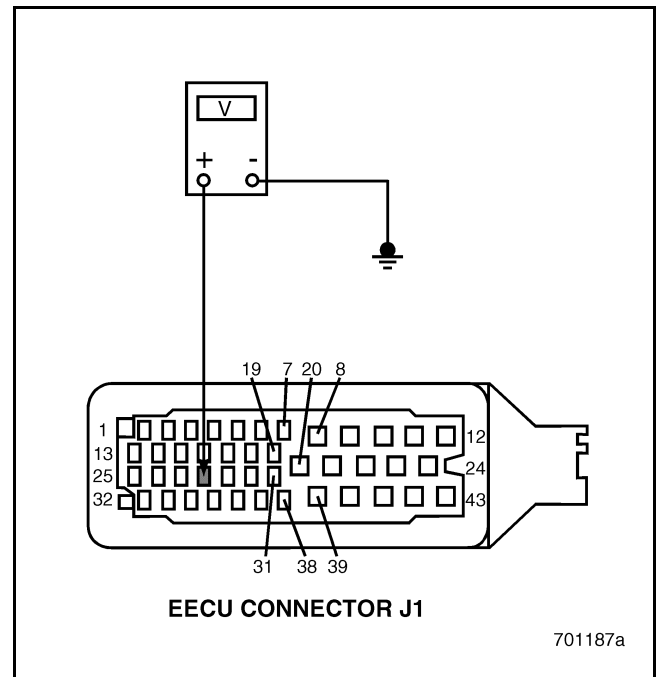

Figure 48
5. Measure the voltage from EECU harness connector J1 pin 28 to a good ground (see Figure 48).